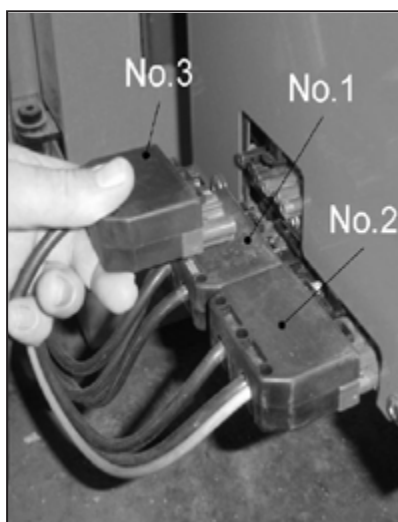

Figure 4-8: Auger plug connection
- Ensure that each plug is fully pushed home until the small catch clicks into place. Refer to Figure 4.8.